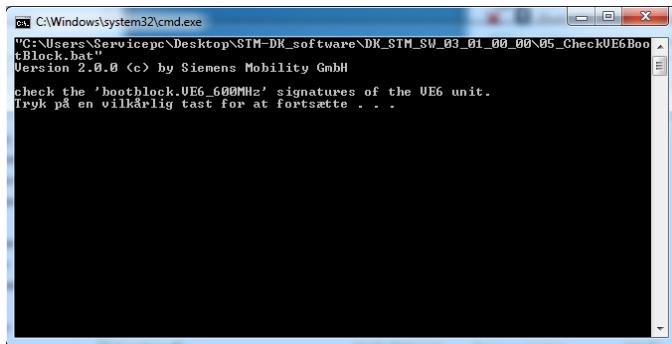
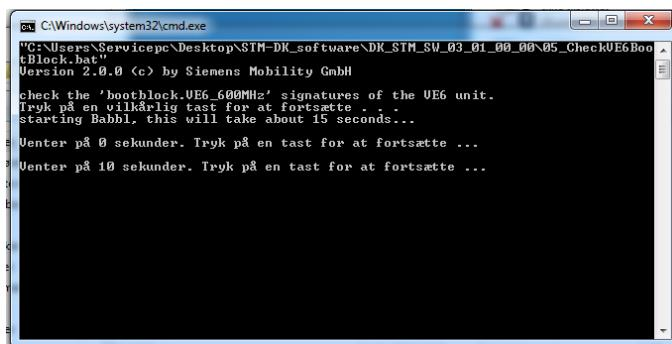

Figure 6 05_CheckVE6BootBlock started
Figure 7 05_CheckVE6BootBlock press any key
- See Figure 6 and Figure 7 for examples.